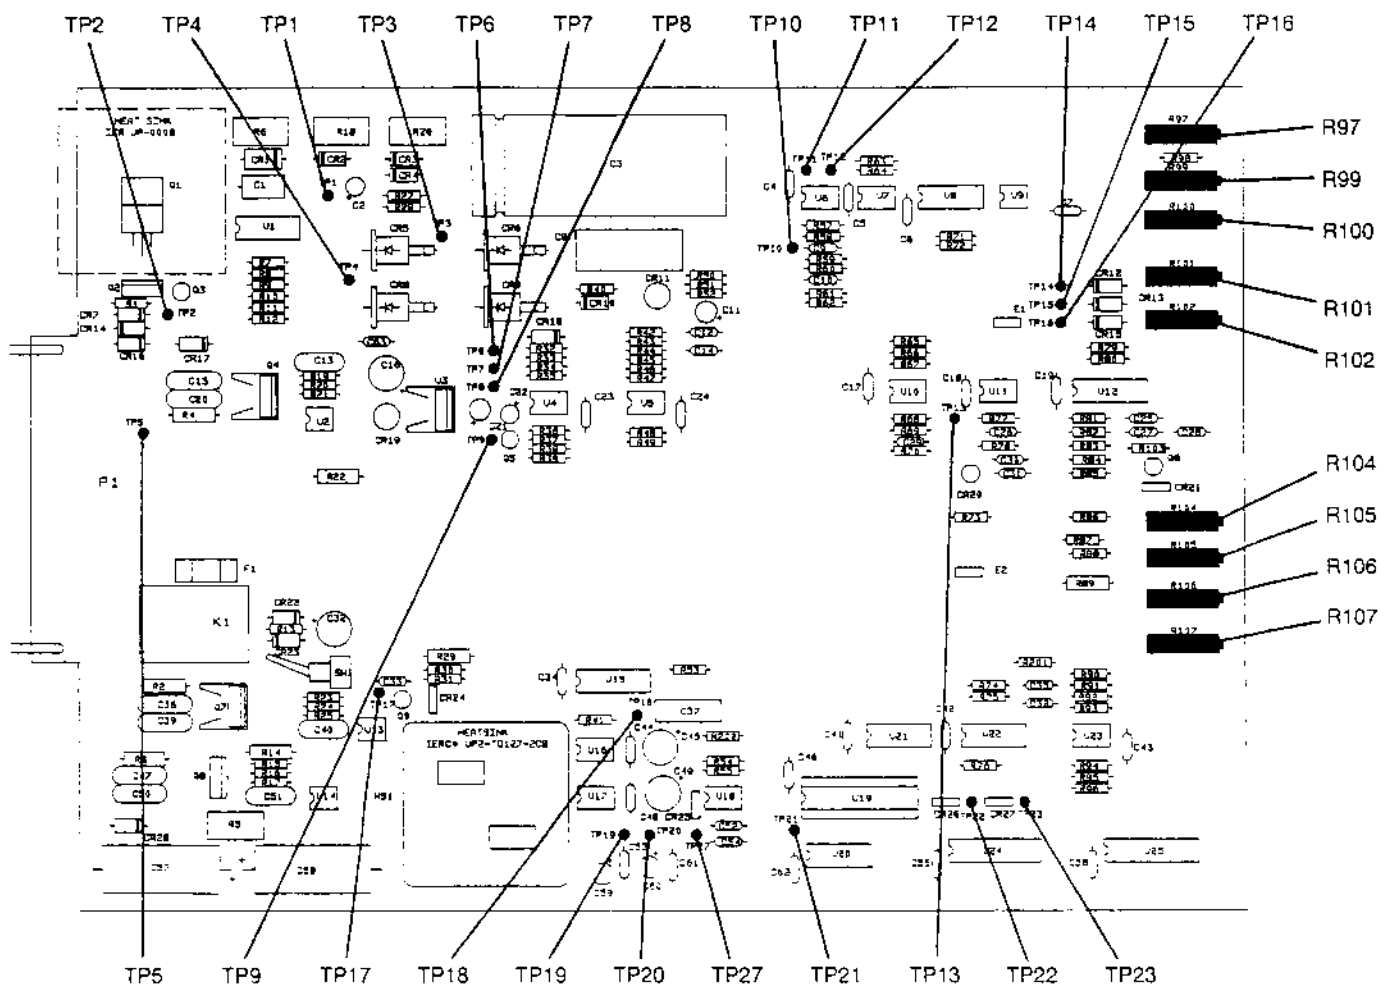

Figure 6-1. Test Point and Adjustment Locations for Controller P.C. Board Assembly, PN 74095 12987
Ambient room temperature must not exceed 25°C and should remain stable when performing the calibrations. Also, power supplied to the centrifuge must be stable and constant. Unless otherwise specified, all test points (TP) and potentiometer (R) adjustments are located on Controller Printed Circuit Board, PN 74095. Figure 6-1 locates these items. Tables 6-3 and 6-4 describe the test points and calibration for the Controller P.C. Board, PN 74095. 12987